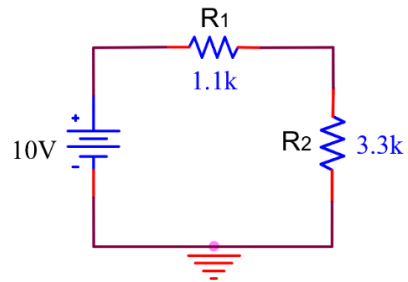

Figure 4.11
1. Calculate all voltages and currents in the Figure 4.11.